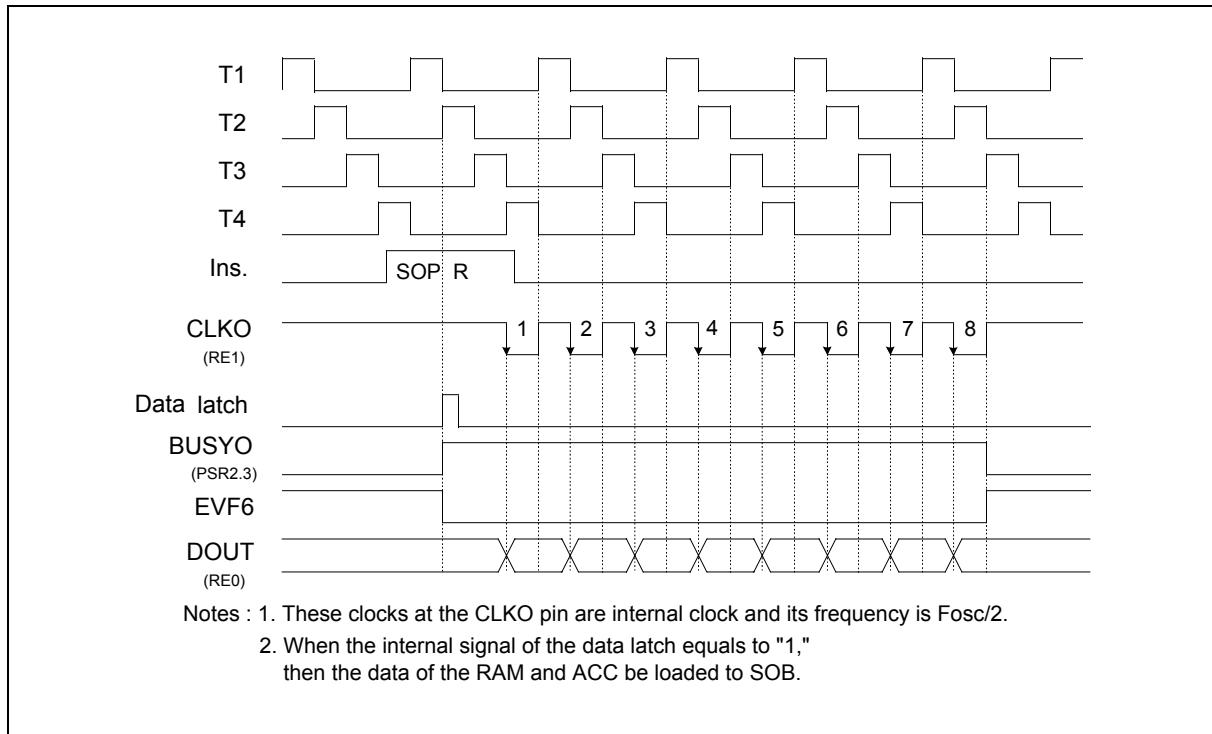

Figure 12. Timing of the Serial Output Function (SOP R)
(2) When the SOP R instruction is executed, the data will be loaded to the serial output buffer (SOB) and bit 3 of port status register 2 will be set to "1" (BUSYO = 1). Then the CLKO pin will send out 8 clocks and the data in SOB will be sent out at the falling edge of the CLKO pin. After the 8 clocks have been sent, BUSYO will be reset to "0" and EVF.6 will be set to "1." At this time, if IEF.6 has been set (IEF.6 = 1), an interrupt is executed; if HEF.6 has been set (HEF.6 = 1), the hold state is terminated. Users can check the status of PSR2.3 (BUSYO) to know whether the serial output process is completed or not. If a serial output process is not completed, and the SOP R instruction is executed again, the data will be lost. The timing is shown in Figure 12.